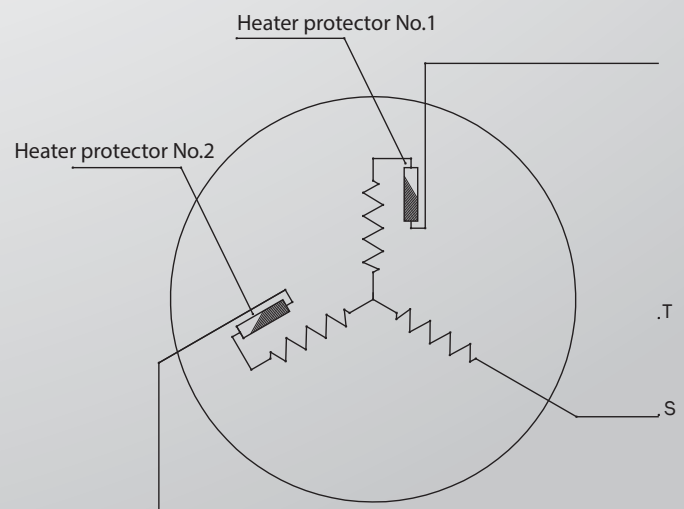

Fig2:
- ▶ Double overloads without any outlet wire, used specially for triple phase system . (Figure 2)